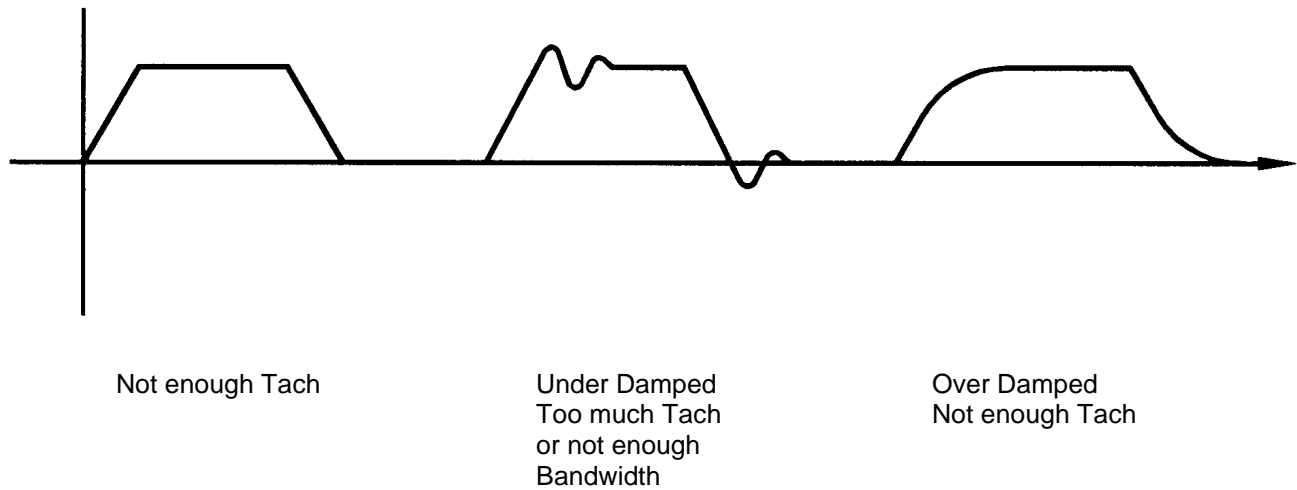

Figure 6.4
5. Observe the tachometer voltage with an oscilloscope while applying and removing the DC input signal. You will observe one of three possible waveforms: critically damped, under damped, or over damped (see figure 6.4).